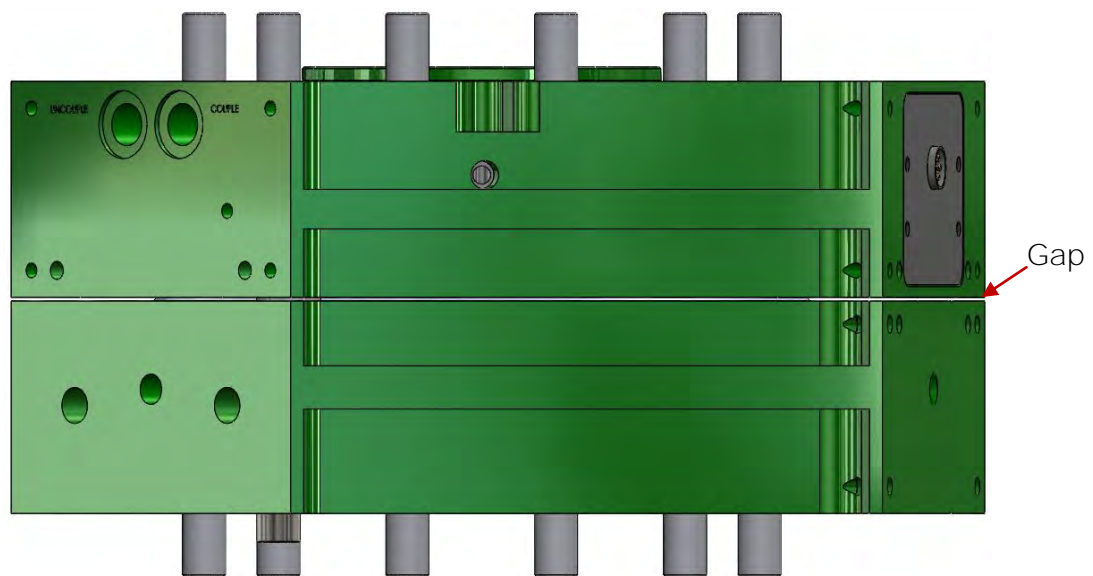

Figure 6.2-2. ES200 Tool Changer – Docked Position
5. Stop the motion when the distance between the Robot Adaptor interface surface and Tool Adaptor interface surface are touching or as close as can reasonably be achieved. At this time, any electrical or fluid connections will be made through the use of available side modules. Note that when the interface surfaces of the Robot Adaptor and Tool Adaptor are in contact, there is a small gap along the outer edge of the Adaptors (Figure 6.2-2)